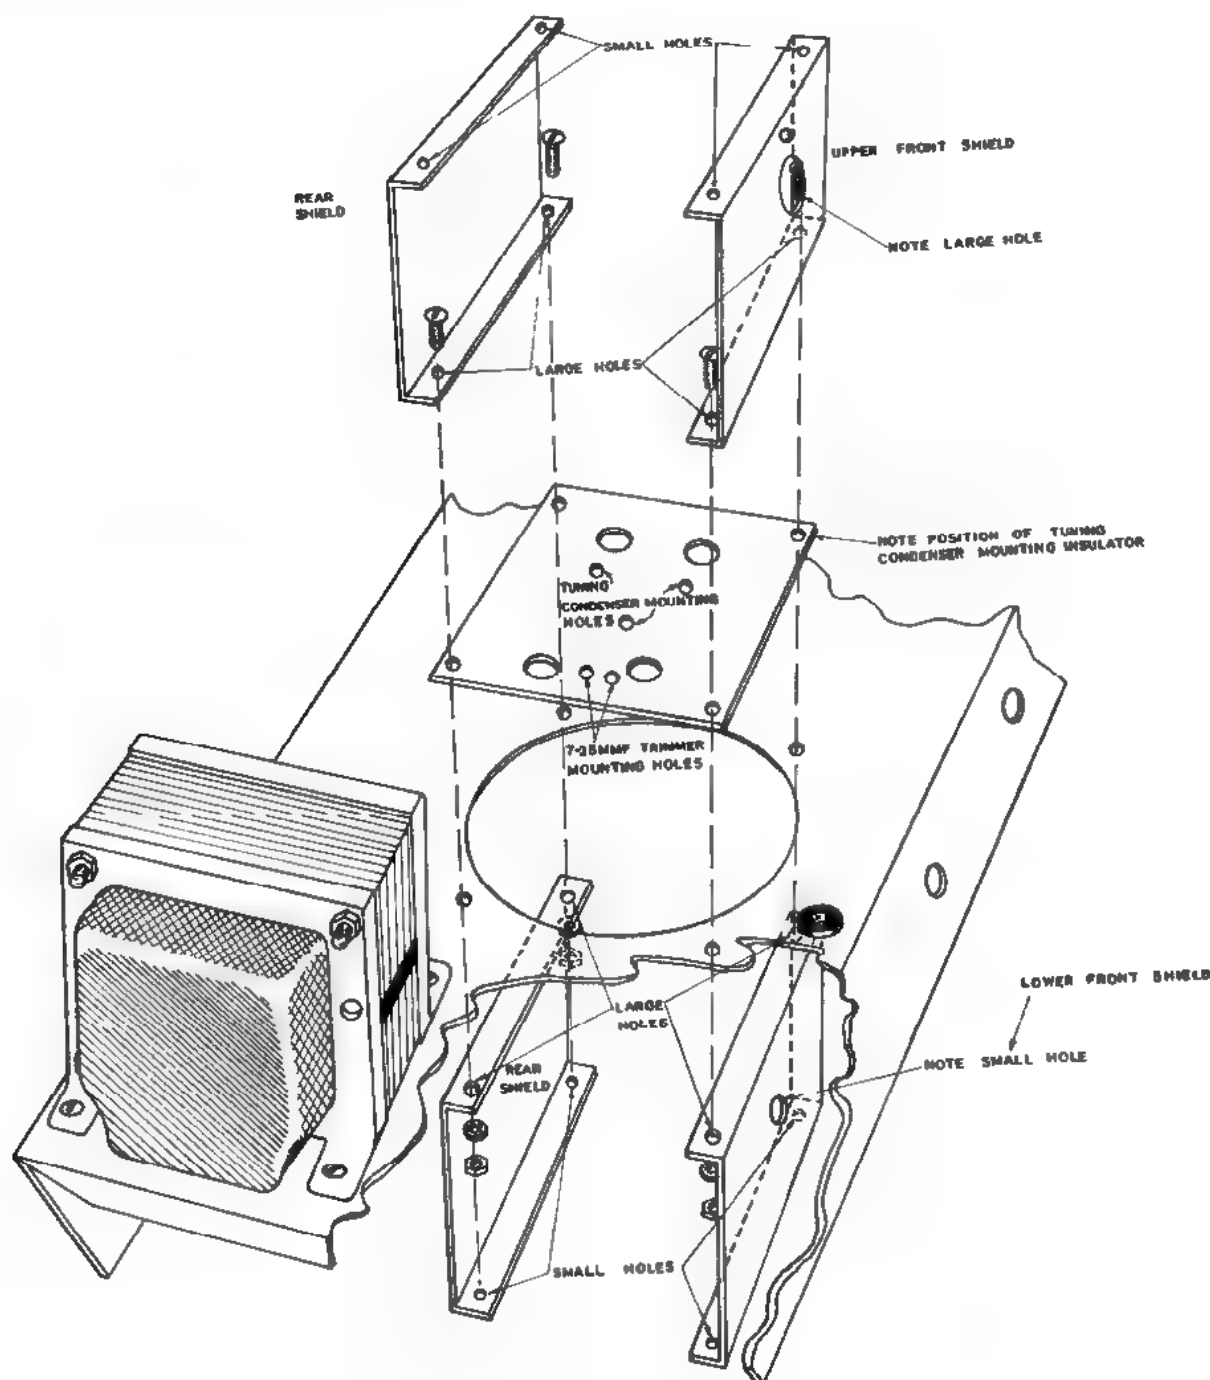

Figure 1
- ( ) Place the tuning capacitor mounting insulator over the large hole on top of the chassis as shown in Figure 1 on Page 11. Orient the large hole nearest the edge of the insulator to the corner toward the power transformer. Using 6-32 hardware, install the insulator, together with the upper and lower front shields, as shown. (Do not install the rear shields at this time.)
- ( ) Mount the tuning gang on the insulator using three 3/16" 6-32 screws in the holes marked for that purpose in Figure 1. Include solder lugs SL-1 and SL-2 under the two screws toward the chassis front, oriented as shown in Pictorial 1 on Page 9.
- ( ) Connect a bare wire from SL-1 (S-1) to T-1 (NS).